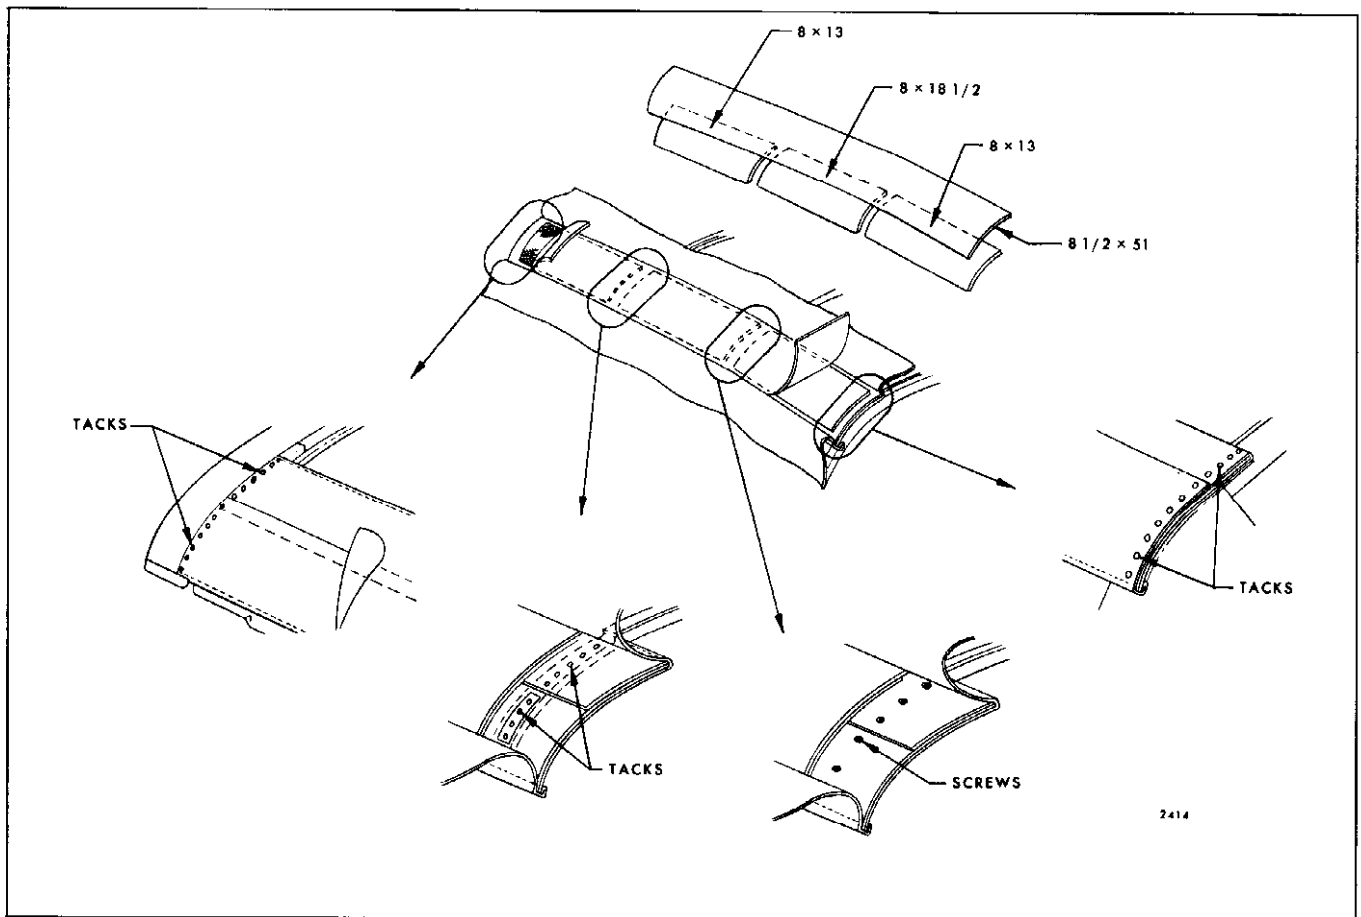
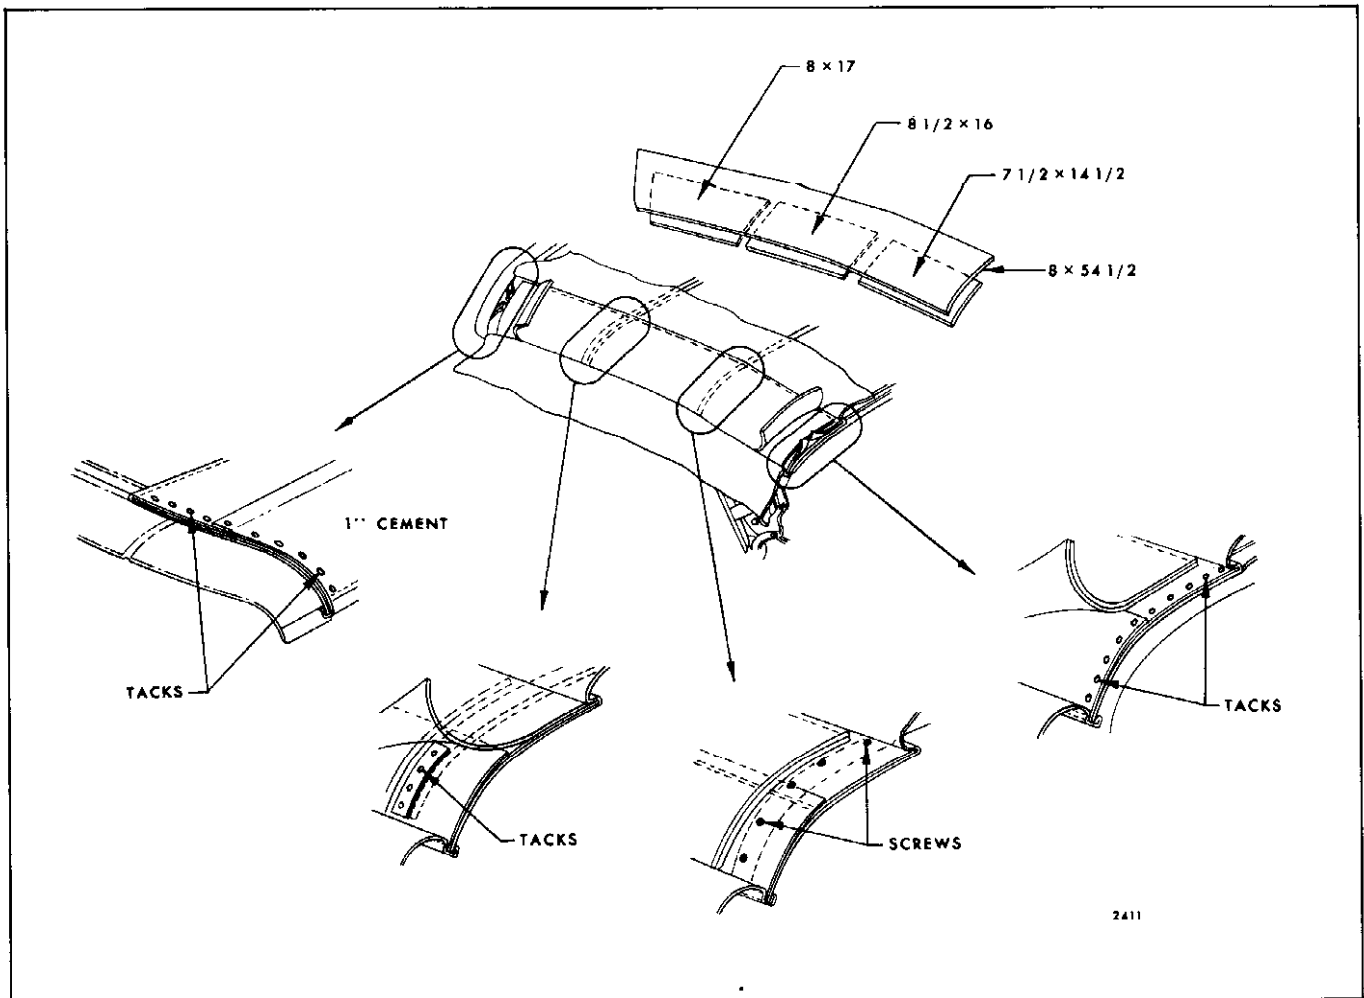
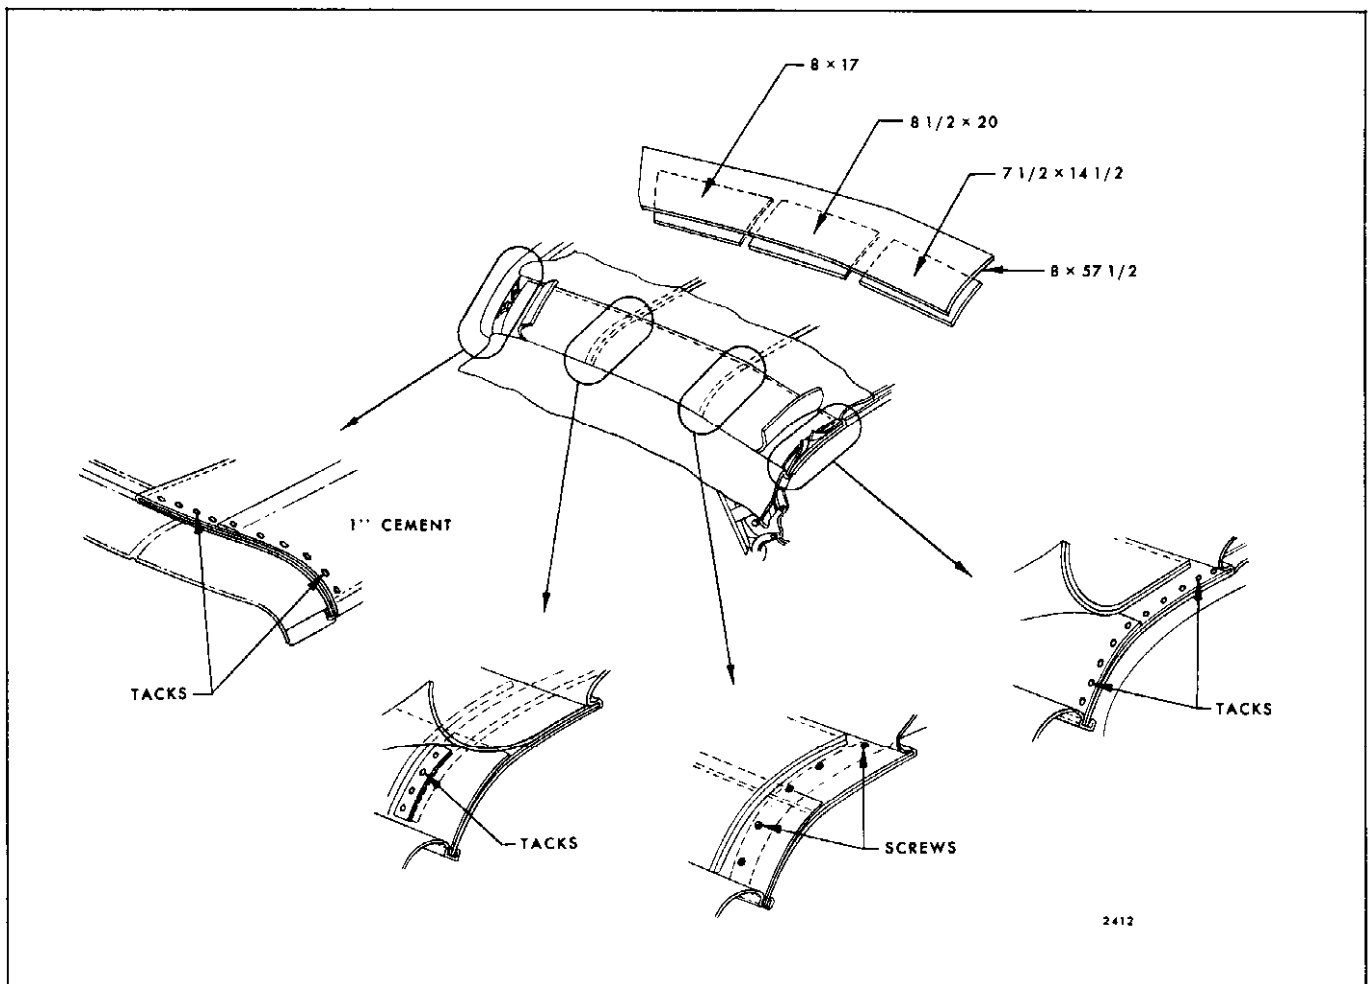
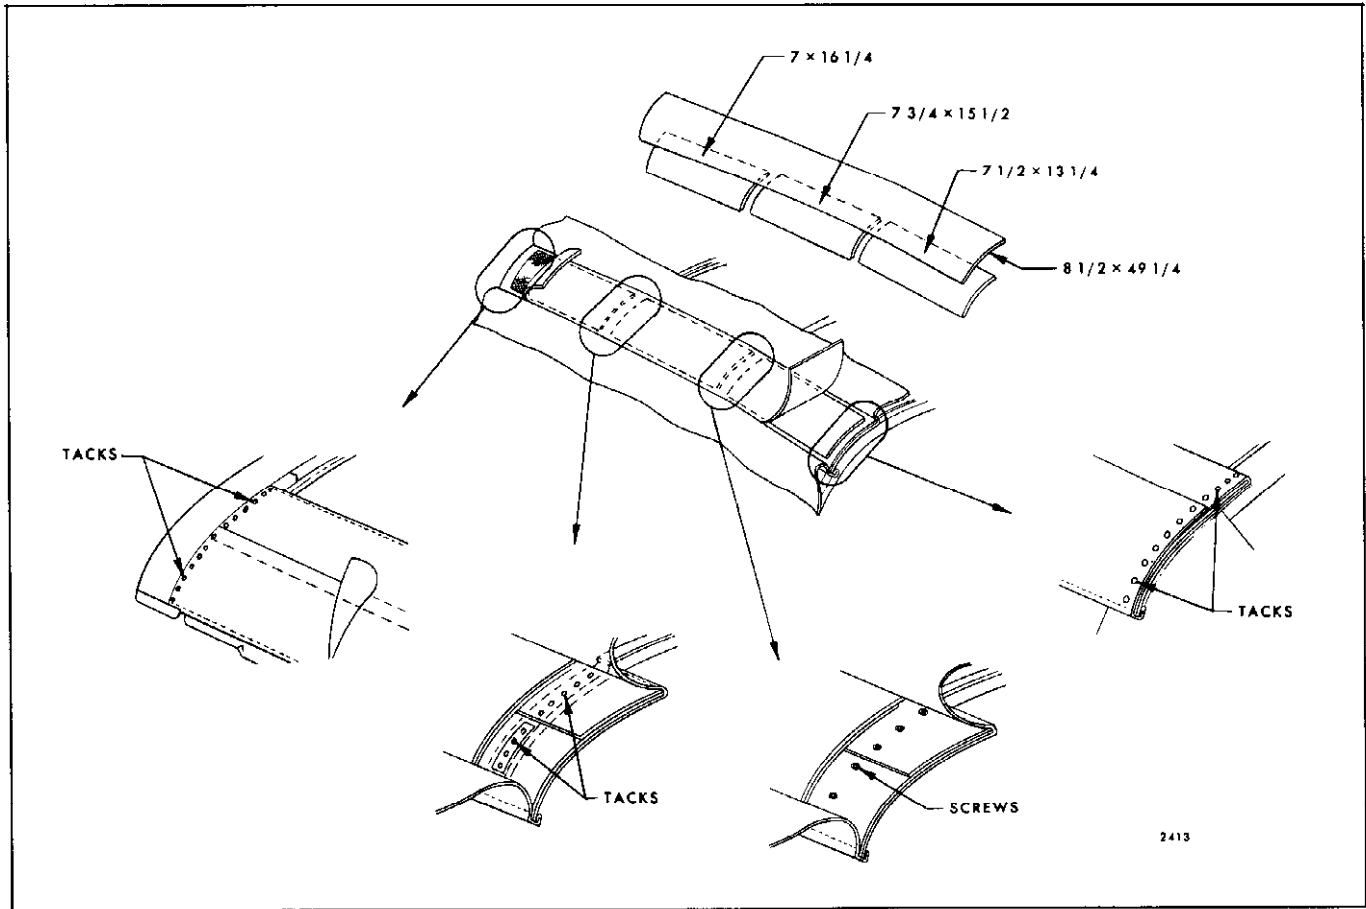

Fig. 13-13—"A" Body Side Stay Pad Installation
Fig. 13-14—"B" Body Side Stay Pad Installation
Fig. 13-15 — "C" Body Side Stay Pad Installation
Fig. 13-16 — "F" Body Side Stay Pad Installation
2. Tack side stay pads in conventional manner to rear roof bow and stay tack pads to front roof rail. Make sure inboard edge of pad is properly aligned within depressions in bow and rail. Stay tack pad to front bow. Install pad to center bow with screws. Make sure inboard edge of pad is properly aligned within depression in bow. Install stay pad wadding in conventional manner using an approved trim cement. (Fig. 13-13 for "A" Body, Fig. 13-14 for "B" Body, Fig. 13-15 for "C" Body and Fig. 13-16 for "F" Body.)
3. Trim salvage end of side stay pads just forward of rear rolled edge of rear roof bow (Fig. 13-13 for "A" Body, Fig. 13-14 for "B"
Body, Fig. 13-15 for "C" Body and Fig. 13-16 for "F" Body).